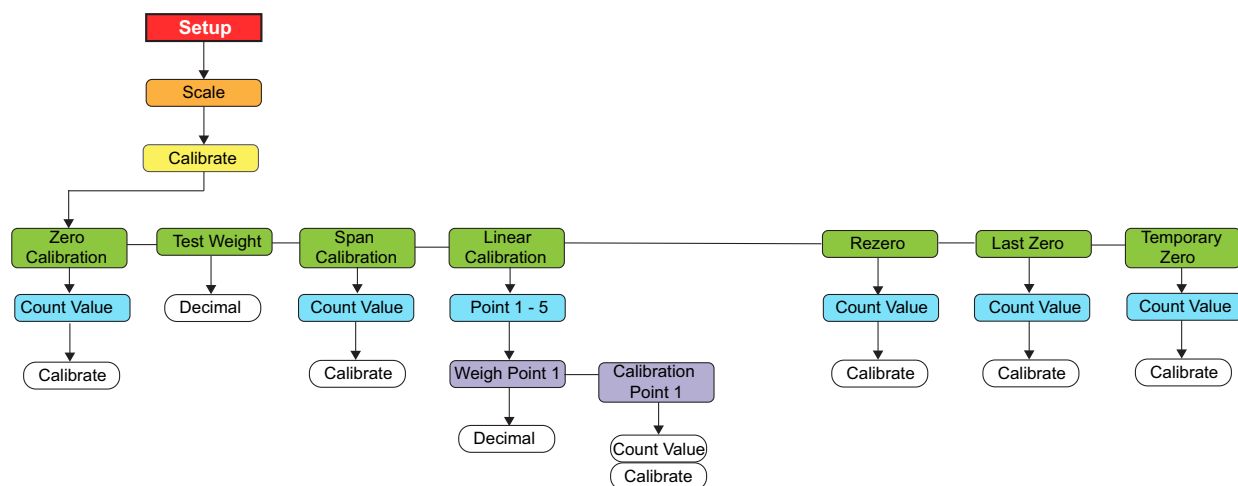

Figure 4-1. Calibration Menu
1. Put the indicator in setup mode (Figure 3-1 on page 29) (or use  if audit trail is enabled), and navigate to **Calibrate** (Figure 4-1 on page 52).